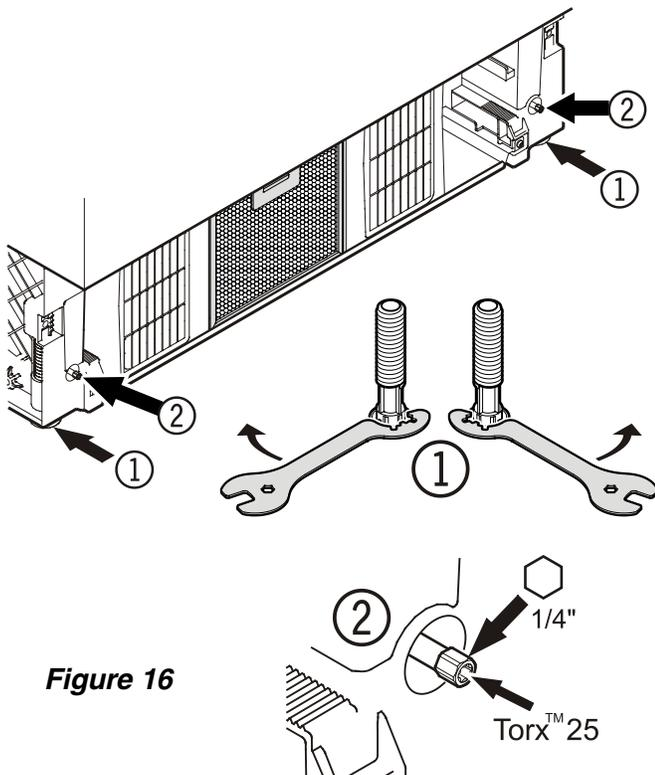

Figure 16
Leveling the Appliance - Figure 16
1. Adjust the height of the appliance at the front by twisting the leveling feet ①. Use the open-ended spanner provided. Turn the spanner counterclockwise to raise the appliance front and clockwise to lower it. Position the spanner accordingly (*Figure 16 - ①*).
2. Adjust the height of the appliance at the rear by turning the adjusting bolts ②. Use a 1/4" box spanner or the Torx 25 wrench provided.
3. Rotate leveling feet ③ until firmly in place against the floor.
To prevent the appliance from tipping forward the leveling feet ① (*Figure 16*) must have contact with the floor.